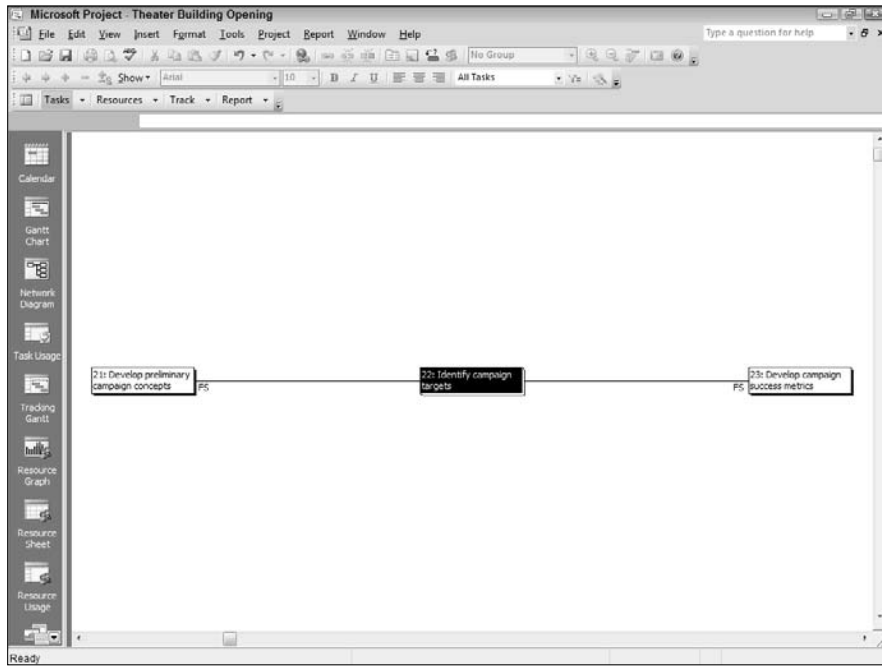

Figure 3-7: When studying dependencies, try Relationship Diagram view.
- ◆ **Relationship Diagram** is a simple graphical view that shows you each task in your project, one by one, with all the dependency relationships to each task shown in a simple diagram with the type of relationship noted next to each task (see Figure 3-7).